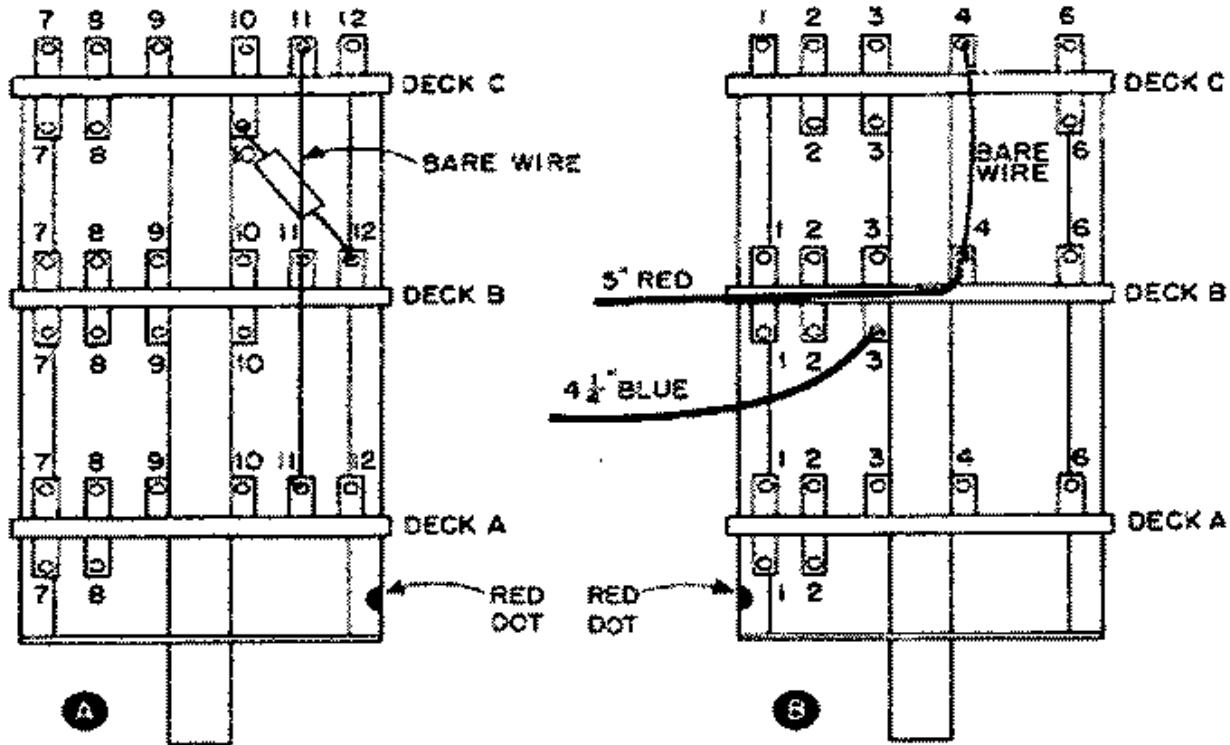

Figure 16 - Side view showing the wiring on deck B.
- () Insert a 2" bare wire through the hole in terminal 11, back of deck a from the front of the switch. Push the wire through terminal 11, back of deck B, and through terminal 11, back of deck C. Now bend a hook at terminal 11, back of deck A; cut off the excess wire and solder terminal 11, back of deck A. The position of this bare wire is shown in Fig. 16.